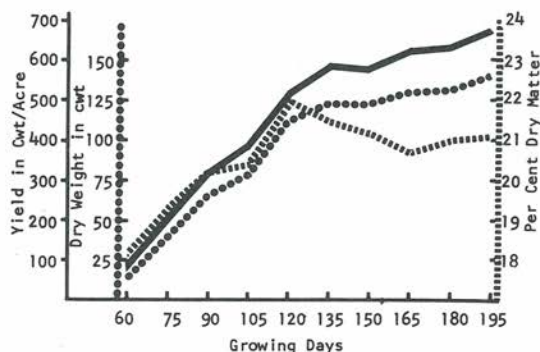

Figure 1—Relationships among yields of potatoes, amount of dry matter produced and percentage dry matter of the tubers.
**Figure 1** shows close relation between yield and total dry matter produced, but not a close relation between percentage dry matter and yield.